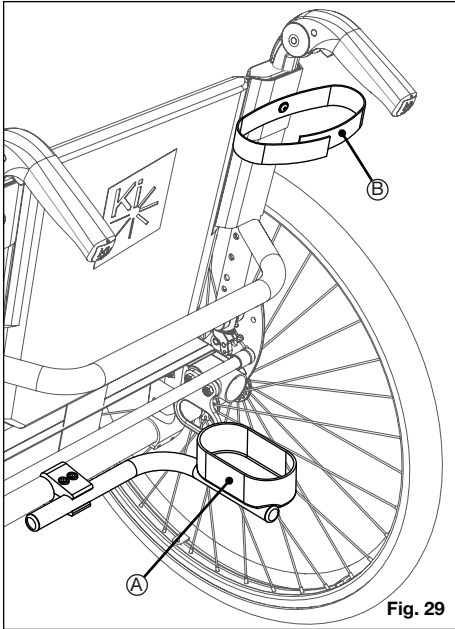

Fig. 29
1. Place narrow end of cane or crutch in the bottom receiving cup (Fig. 29:A).
2. Use the hook and loop fastener (Fig. 29:B) to secure the cane or crutch to the upper back cane. Confirm the canes or